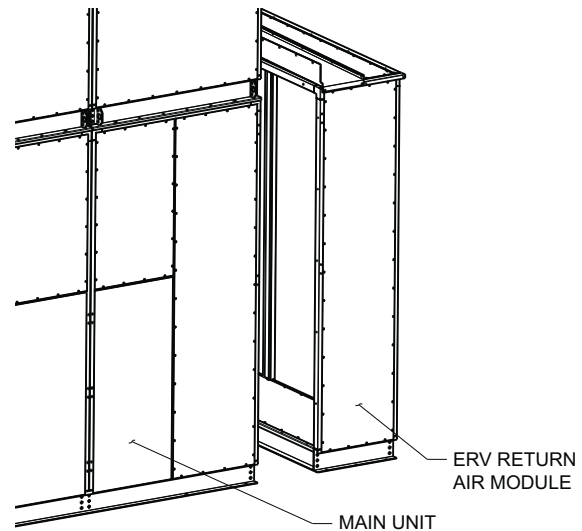

Fig. 164 — Connect Lower ERV Return Air Module Section
1. Connect lower ERV return air module sections to the main unit. Make standard connections with hardware at base rails, intelliclamps, and top frame brackets. See Fig. 164.